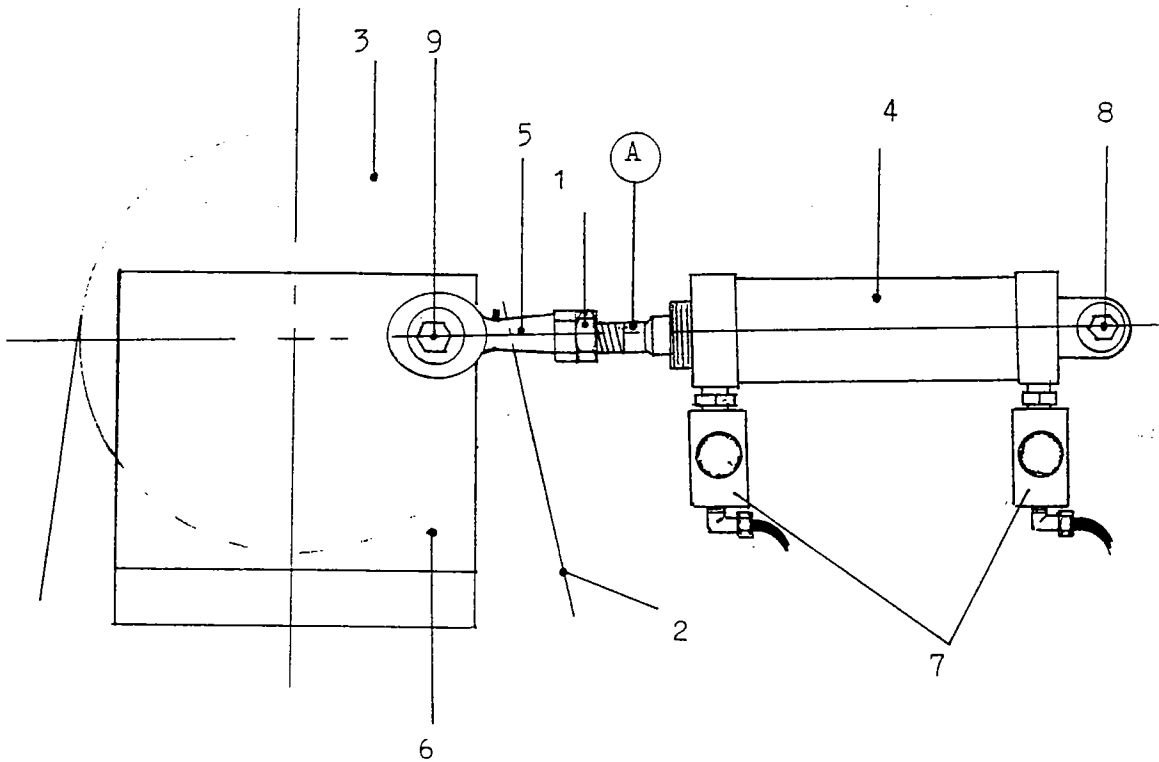

FIG. 5
- K. If there are not smooth to the oscillation of sanding belt in moving, please loosen the sanding belt (shown as fig.5 & fig.11), then move it leftward/rightward. And tightly screw it when it is normal.
- (1) Condition - The oscillation of sanding belt is normal, but it slightly swings toward the right.